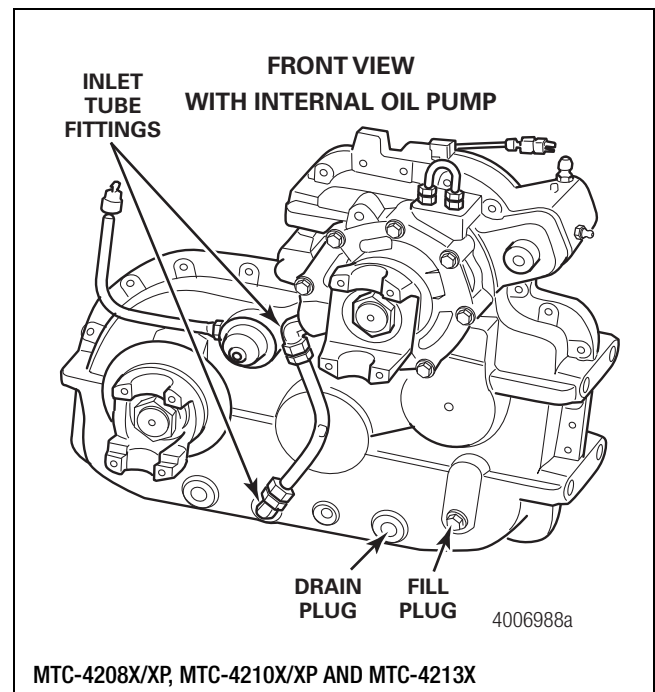

**Figure 4.1**
- A. Disconnect the transfer case oil inlet line from the oil pump cover. Figure 4.1.